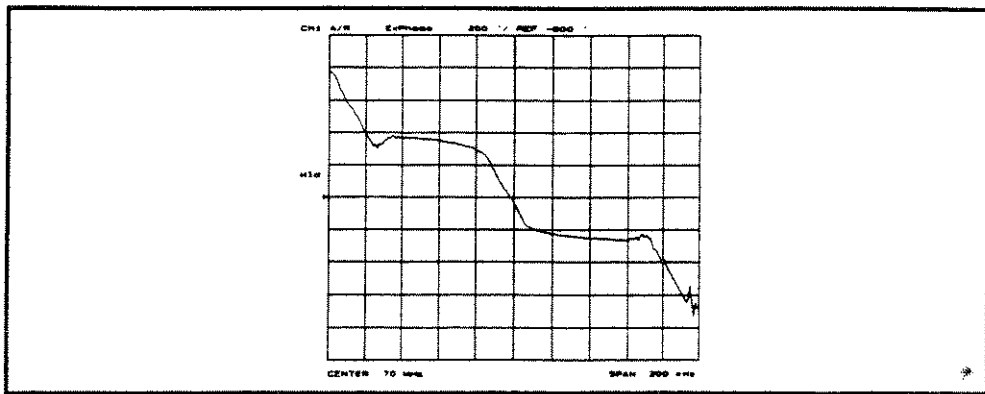

Figure 9-11. Expanded phase Format
**EXPANDED PHASE (EXPP)** displays the phase plot over 360° (Figure 9-11). When this is turned ON, the analyzer avoids the phase plot wrap around every 360°.